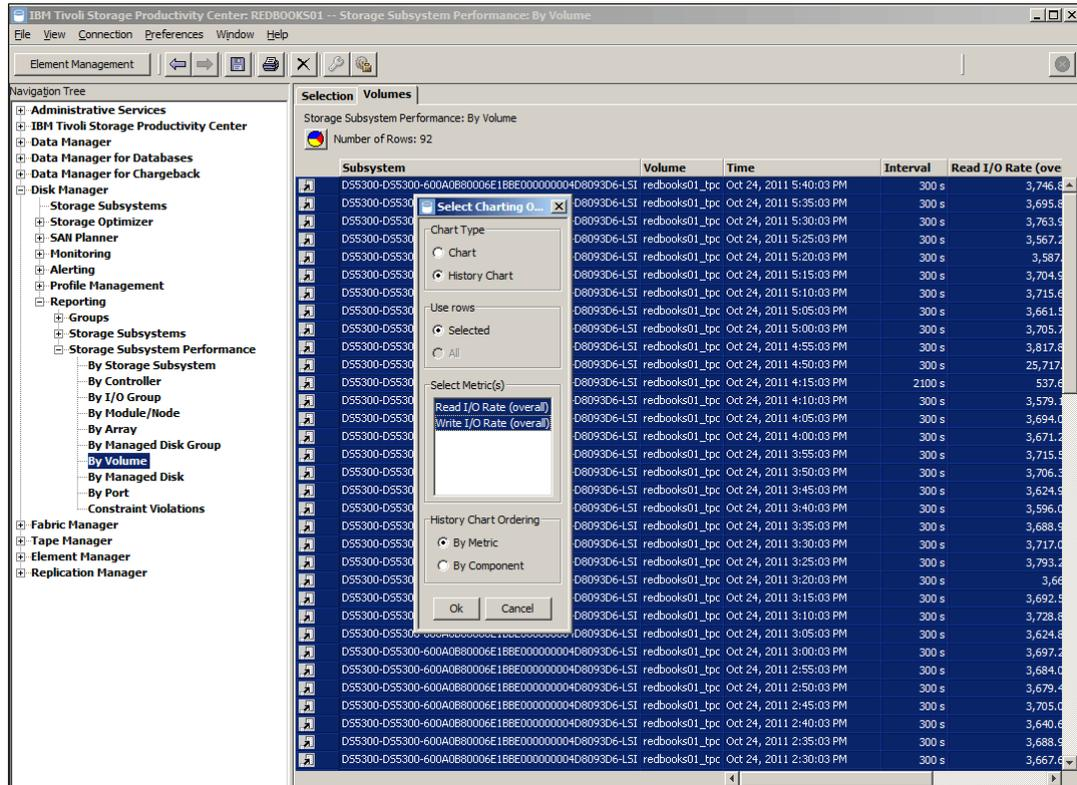

Figure 9-45 Select Charting window
- Now we generate a chart. Select all of the results and click the chart icon, then select **History Chart** and all of the metrics, as shown in Figure 9-45.